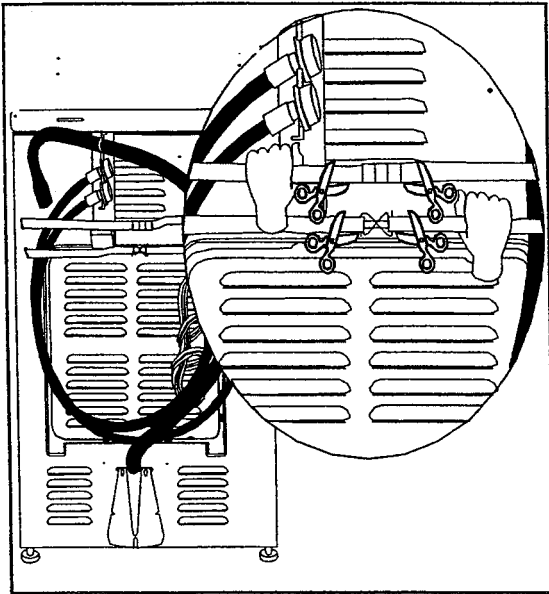

Figure 1-1
- a. Locate the metal buckles securing the red straps extending through slots in the rear wall of the cabinet. The buckles are positioned in the center of the red straps. Carefully cut the red straps, completely removing the metal buckles. **NOTE: Cut the straps as close to the buckles as possible.** Discard the metal buckles (*Figure 1-1*).